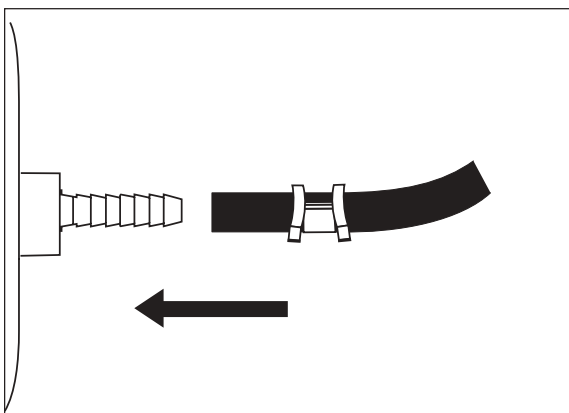

Figure 5
- g. Push the air line onto the stem of the air spring, covering all the barbs (Figure 5). With pliers slide the air line clamp upward until it fully covers the barbed section.